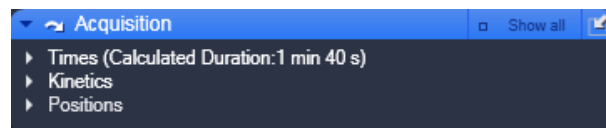

Fig. 9-35 Acquisition panel
- Click on the **Acquisition** register to open the **Acquisition** panel (Fig. 9-35). Click on any other register to leave the panel.